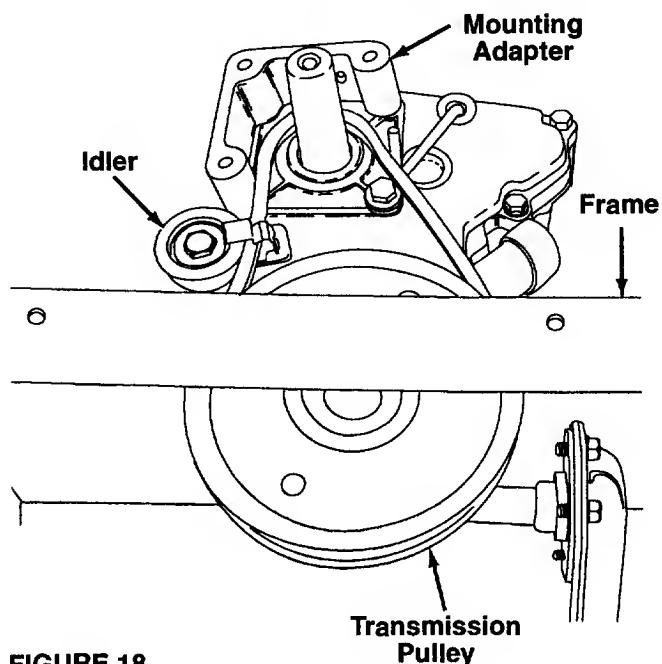

FIGURE 18.
18. Insert the new belt between the frame and transmission pulley. It may be necessary to use a screwdriver to pry the frame away from the pulley in order to insert the belt. Apply a slight upward pressure, being careful not to damage the pulley. Place belt around transmission pulley. See figure 18.
19. Press down on the belt guard spring by the idler pulley and release spring from the slot on the idler bracket. Place the belt on the idler pulley and place belt guard spring back into the slot on the idler bracket. See figure 18.
20. Place the mounting adaptor against the engine. Make sure the hole for the belt guard screw is facing up. See figure 18.